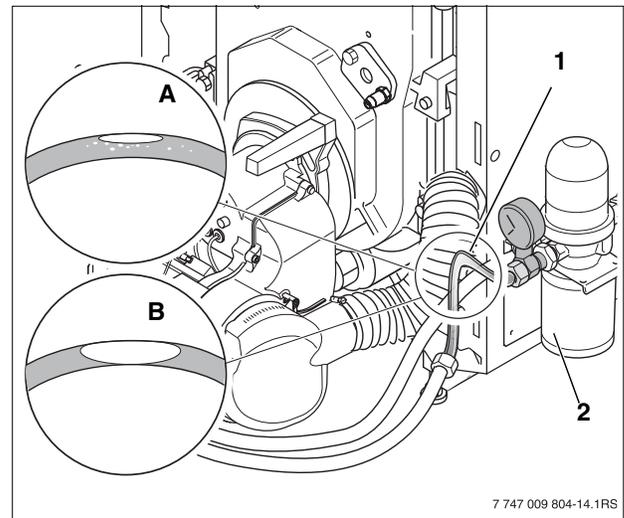

Fig. 36 Testing the air tightness of the oil supply line
- Connect hose (Fig. 36, **Item 1**) in suction line between the TigerLoop (Fig. 36, **Item 2**) and the oil line.
- Form a loop as shown (Fig. 36).
- Verify if air bubbles are collecting at the highest point of the hose (Fig. 36, detail **A** and **B**).
Small amounts of air are permitted (Fig. 36, **A**). Larger air bubbles indicate a leak (Fig. 36, **B**) which needs to be found and corrected.